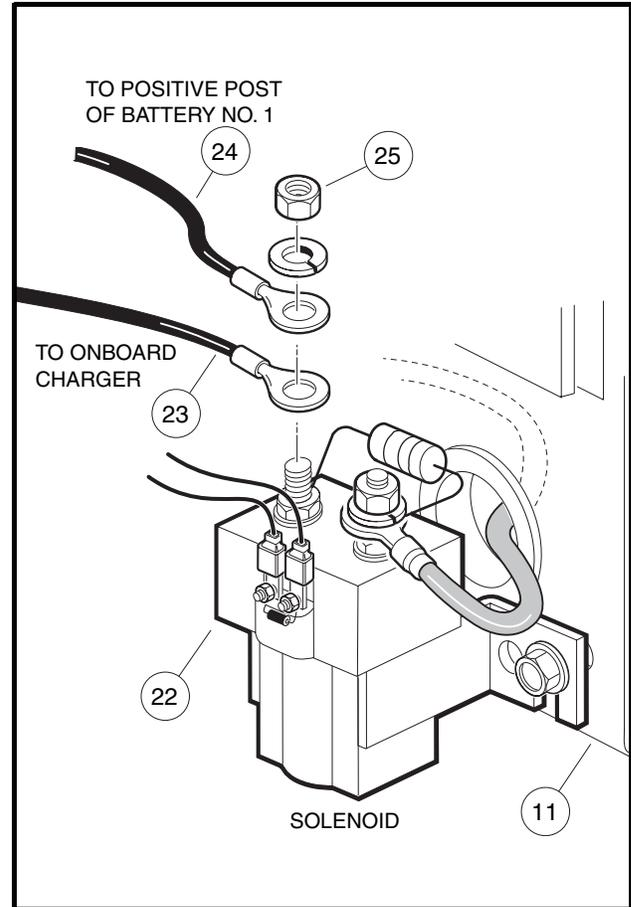

Figure 4-25 Charger DC Cord Red Wire
5. Remove 10-gauge red charger DC cord wire (23) from large post of solenoid (Figure 4-25, Page 4-31).